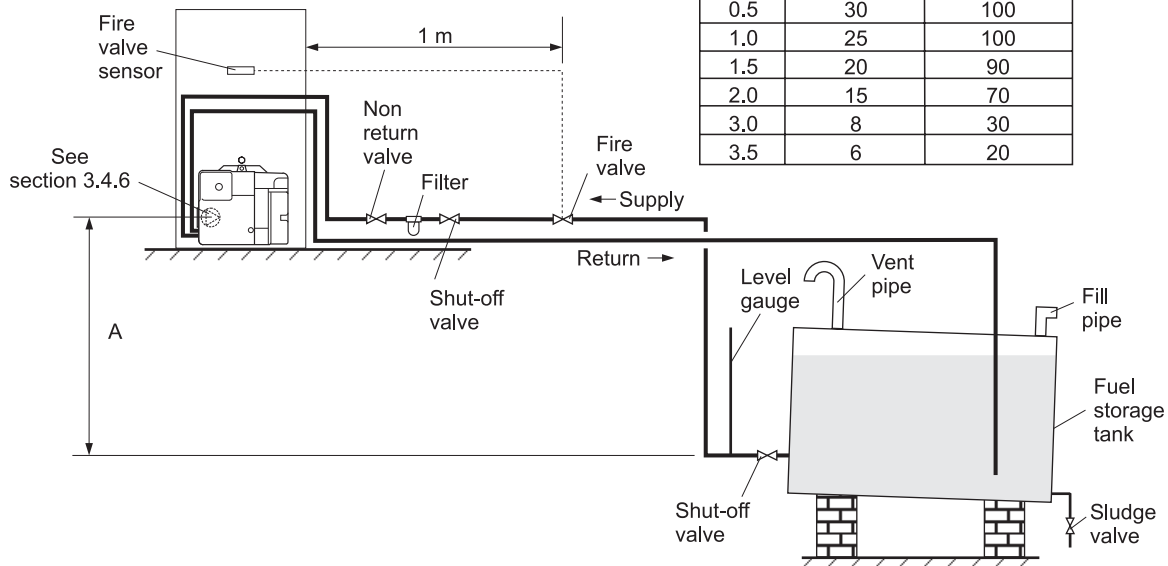

Fig. 3 - Two pipe system
3.4.4 Two pipe system - (See Fig. 3)
- 1 When the storage tank outlet is below the burner, the two pipe system should be used. The pipe runs should be as shown in Fig. 3. The return pipe should be at the same level in the tank as the supply pipe, both being 75 to 100 mm above the base of the tank. The pipe ends should be a sufficient distance apart so as to prevent any sediment disturbed by the return entering the supply pipe.
- 4 To be used with a two-pipe system, the burner **must** be fitted with an additional flexible fuel line (a flexible fuel line (900 mm) and $\frac{3}{8}$ " to $\frac{1}{4}$ " BSP male adaptor are available from Grant Engineering (UK) Limited). See section 3.4.6.